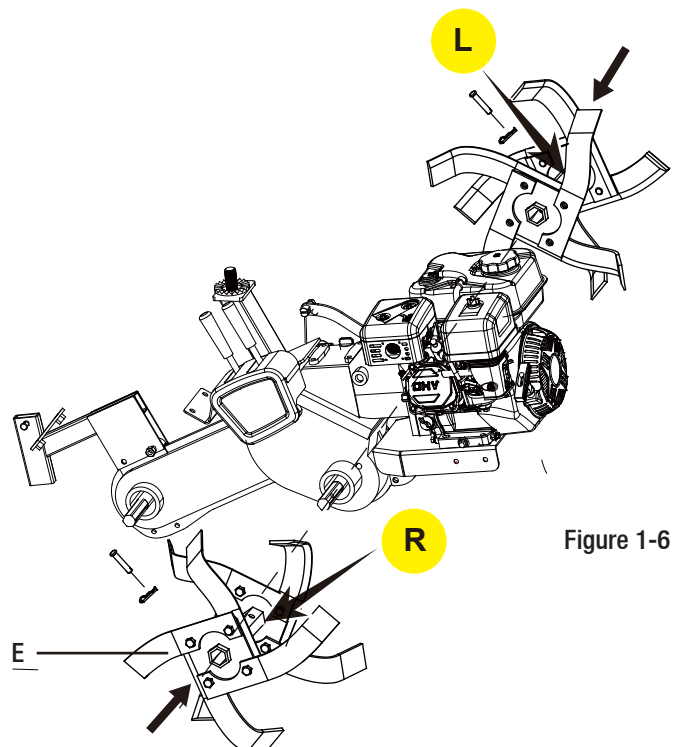

Figure 1-6
- Insert tines (E) on each side through the tine axle located on the rear of the tiller. Align pre-drilled holes and insert clevis pin (LL) then insert cotter pin (FF) to secure in place. See Figure 1-6.